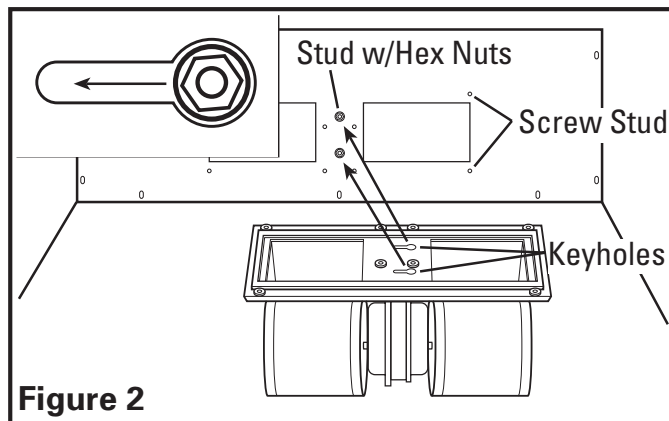

Figure 2
1. Lift blower up into the hood canopy and slide the keyhole slots in the motor mounting flange over the two studs of the hood. Slide the motor into place and tighten the hex nuts on the mounting stud while lining up the 8 holes in the motor mounting flange to the 8 screw studs of the hood (**Figure 2**).
2. Lift blower up into the hood canopy and slide the keyhole slots in the blower mounting flange over the two studs of the hood. Slide the blower into place and tighten the hex nuts on the mounting stud while lining up the 8 holes in the blower mounting flange to the 8 screw studs of the hood (**Figure 2**).